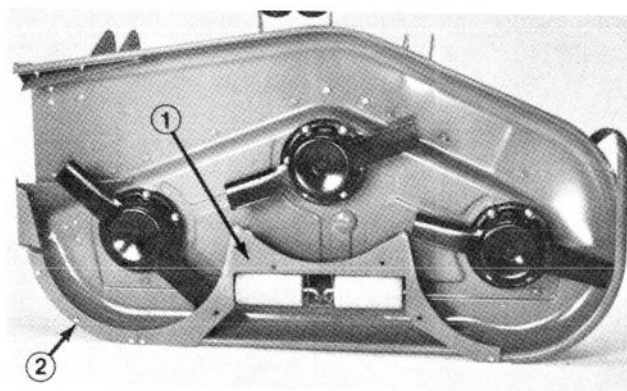

Figure 7
7. Position center ring baffle on deck as shown (Fig. 7). Using a long thin pencil or punch, mark (4) middle mounting holes in deck. (Holes may already be in deck)
8. Drill (4) 13/32" dia. holes in deck, if required.
9. Mount center baffle to deck with (4) 3/8-16 x 1" capscrews and lock nuts (Fig. 7).
10. Using center baffle as a template, drill (2) 9/32" dia. holes thru curve edge of deck (Fig. 7). Secure baffle to edge of deck with (2) 1/4-20 x 3/4" capscrews and lock nuts.
11. Align right ring baffle with end of center baffle and edge of deck (Fig. 7). Mark and drill (2) 9/32" dia. holes thru curve edge of deck (Fig. 7). Secure right baffle to edge of deck with (2) 1/4-20 x 3/4" capscrews and lock nuts.